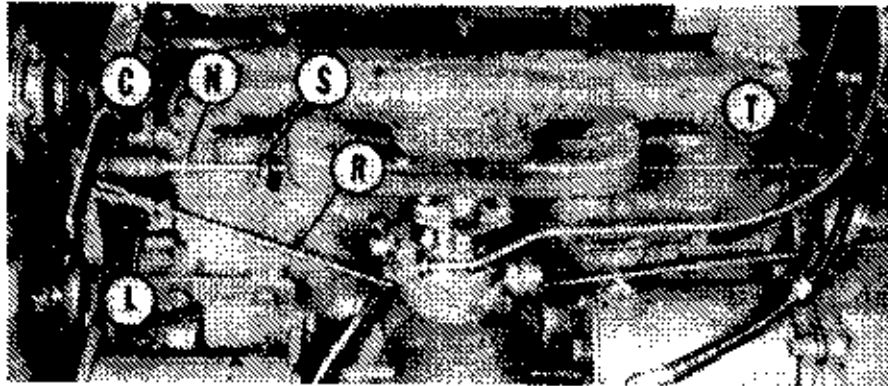

Fig. FO24—View of left side of engine showing governor adjustment points.
assembly. If necessary to renew the complete Novi unit, a later production Pierce flyweight type centrifugal unit (Items 16 to 21) is available as an assembly. In addition, it will be necessary to install a new governor compensating spring assembly (C—Fig. FO24) that is balanced to the Pierce centrifugal flyweight unit.
With engine dead, disconnect governor lever to carburetor link (R) from carburetor throttle arm as shown in Fig. FO24. With the throttle lever in wide open position, adjust length of link at (L) so that link will reattach to carburetor throttle shaft arm when throttle shaft is held in wide open position. An alternate method for this step is to leave link attached to carburetor and, with throttle lever in wide open position, adjust length of link by loosening lock nut (L) and turning link in or out of clevis until the carburetor throttle arm is just touching the wide open stop.